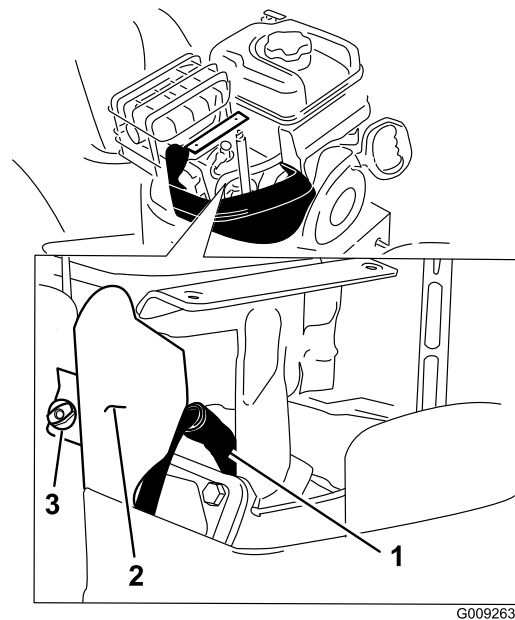

Figure 37
4. Remove the bracket thumb screw and the bracket (Figure 37).
5. Clean around the base of the spark plug (Figure 37).